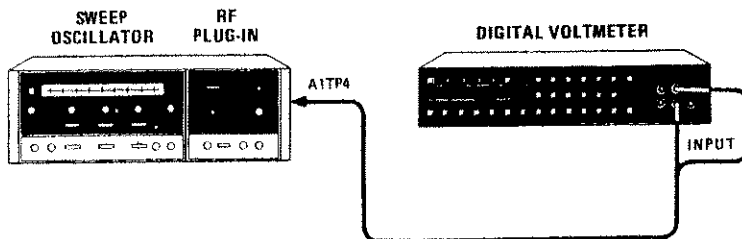

Figure 5-11. FM Offset Adjustment Test Setup
Equipment listed is for two (2) test setups (Figures 5-11 and 5-12).
1. Connect equipment as shown in Figure 5-11.